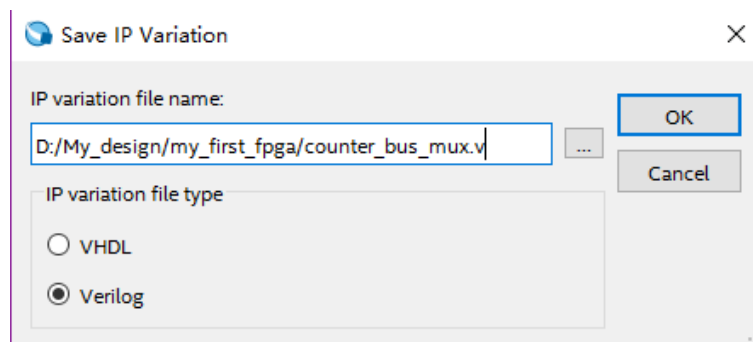

Figure 3-22 Save lpm_mux Variation
2. Choose Verilog HDL as the output file type, and name the output file counter_bus_mux.v (see **Figure 3-22**).